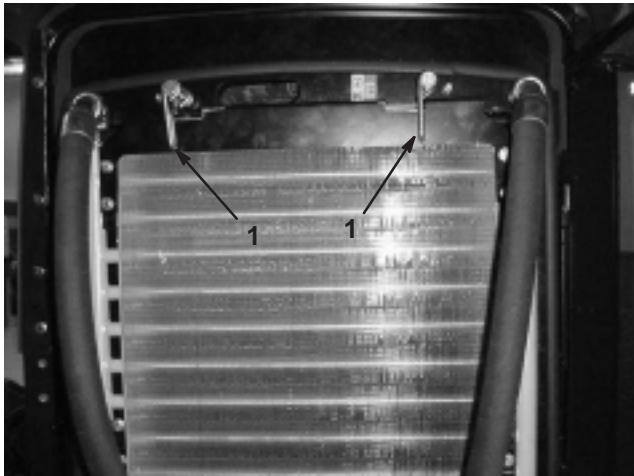

Figure 33
2. Rotate latches (Fig. 33) securing the oil cooler to the frame.